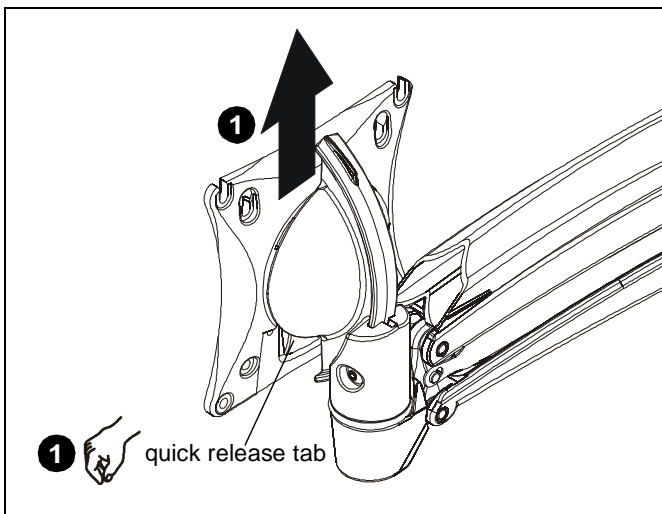

Figure 8
1. Remove quick release faceplate from mount by pressing quick release tab and sliding faceplate off mount. (See Figure 8)